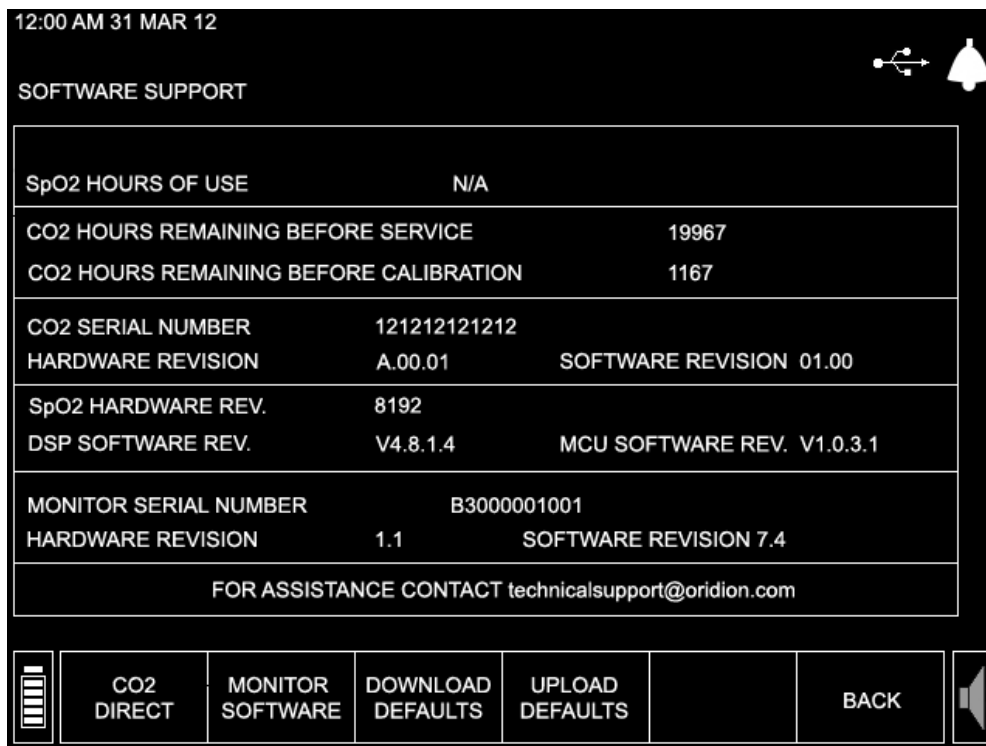

Figure 50 - Software Support Screen
4. Click the **SOFTWARE SUPPORT** menu button to enter the Software Support screen. The Software Support screen can be seen in Figure 50 - Software Support Screen on page 133.